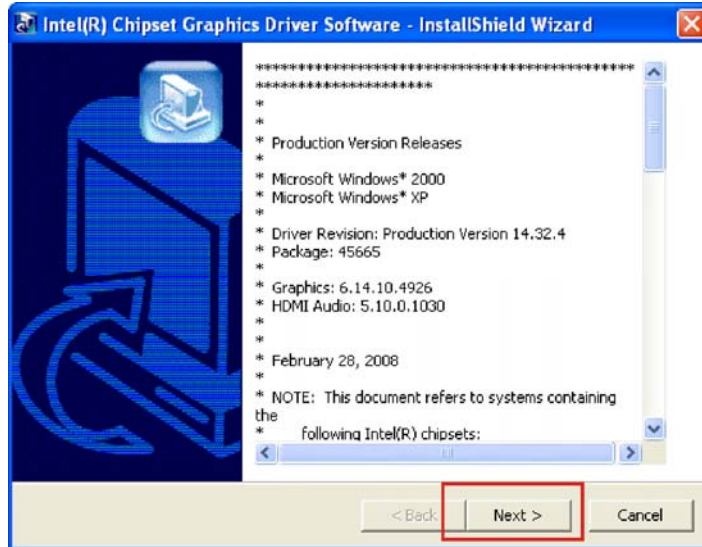

Figure 6-8: VGA Driver
Step 3: A new window appears with a detailed explanation of what is contained in the graphics driver file (Figure 6-8).
Step 4: Click **NEXT** to continue the driver installation process (Figure 6-8).